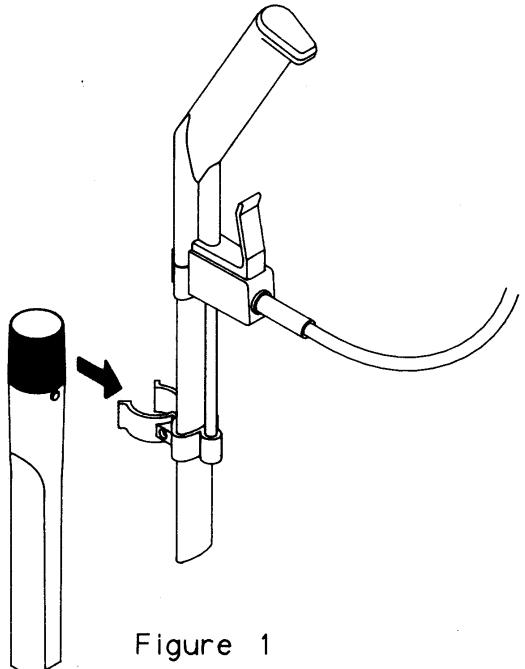

Figure 1
3. Brush Adjustment (3) / Electronic Control (Figure 1)
Tools should be installed as shown in Figure 1. The smaller lower section of the tools should be snapped into the retainers.